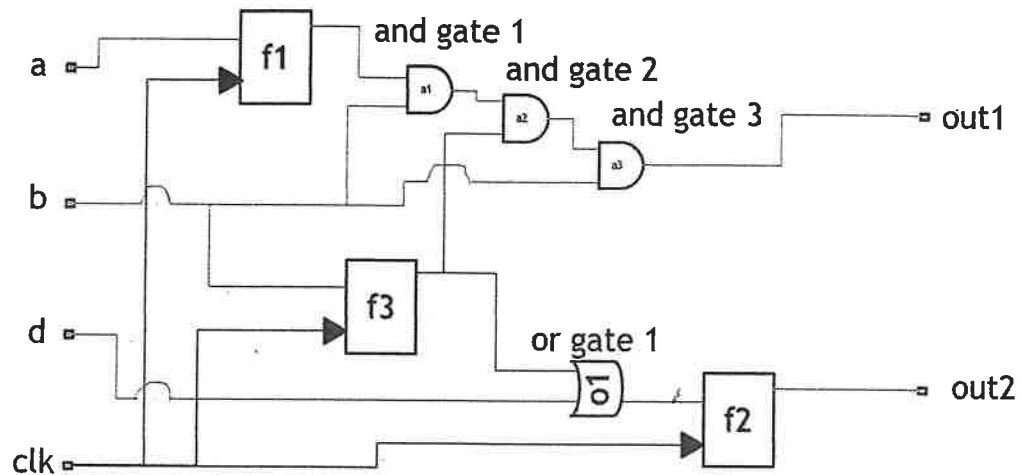

Figure Q2(d-1) Circuit Diagram 1
- ii) Prove two circuits given in Figure Q2(d-1) and Figure Q2(d-2) named as Circuit Diagram 1, and Circuit Diagram 2, respectively, are equivalent. You may use Boolean algebra or Truth-tables.